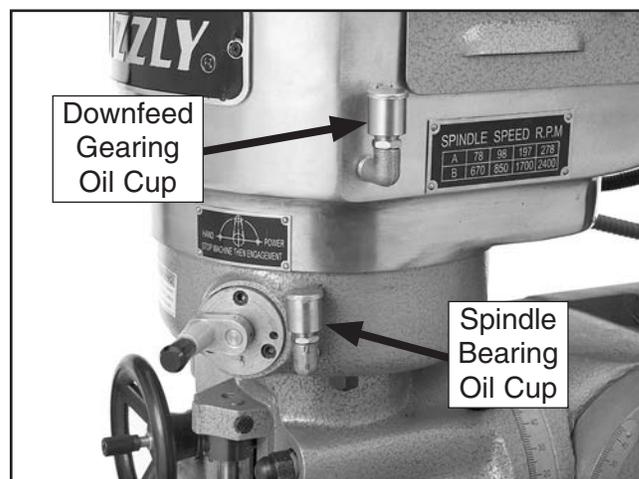

Figure 53. Model G9901/G9902 downfeed gearing and spindle bearing oil cups.
2. Refer to **Figures 53 & 54** to identify the oil cups for downfeed gearing and spindle bearing lubrication.